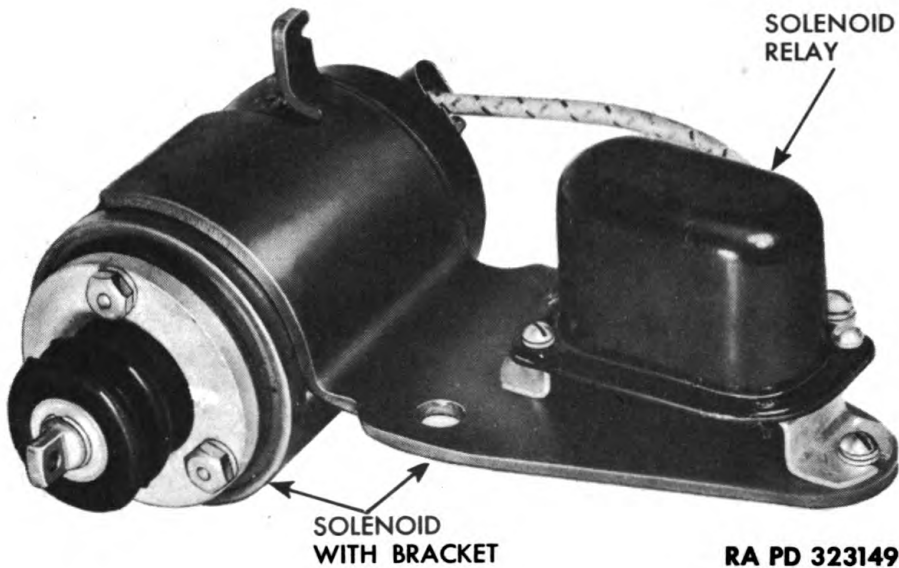

Figure 150 – Carburetor Shut-off Solenoid and Relay
56. DESCRIPTION AND OPERATION (fig. 150).